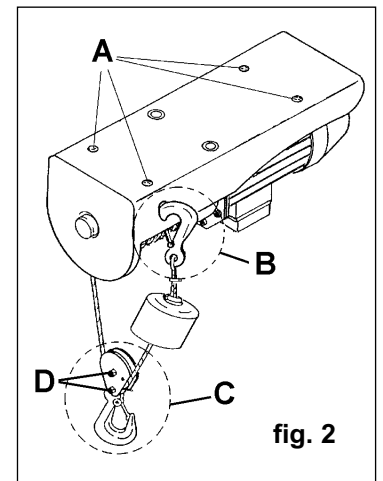

fig. 2
- 3.2. Ensure that the selected support is sufficiently strong and will also hold the hoist in a horizontal position. If alternative mounting brackets are fabricated ensure that these are at least as strong as those provided and align with the mounting holes (fig.2 A) in the hoist.
- 4.5. To carry out a double line lift first place single line hook in aperture in hoist frame (fig.2.B). Then take double line pulley and hook, remove nut and bolt holding hook and place pulley on cable loop between hoist drum and single line hook (fig.2.C). Refit hook and tighten both locknuts (fig.2.D), ensuring that pulley is free to rotate. Proceed as 4.2. to 4.4.